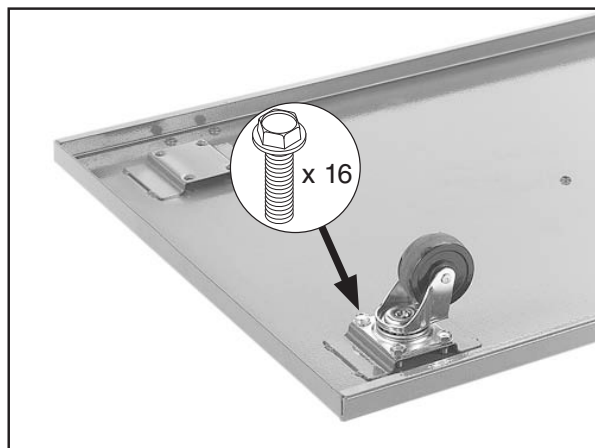

Figure 14. Caster installed onto the base.
2. Install the casters on to the base with (16) $\frac{5}{16}$ -18 x $\frac{1}{2}$ " flange bolts, as shown in **Figure 14**.